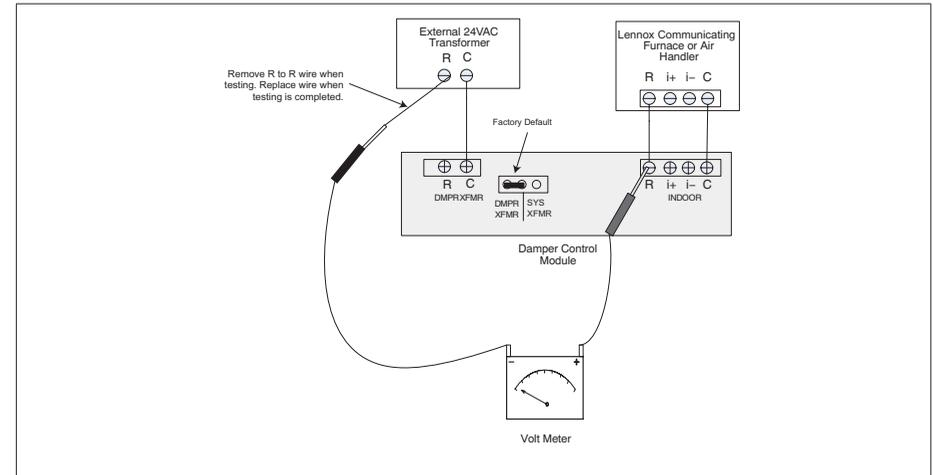

Figure 3. Confirming Correct Transformer Phasing
- Phase transformers as per recommendation “Figure 3. Confirming Correct Transformer Phasing” on page 6.